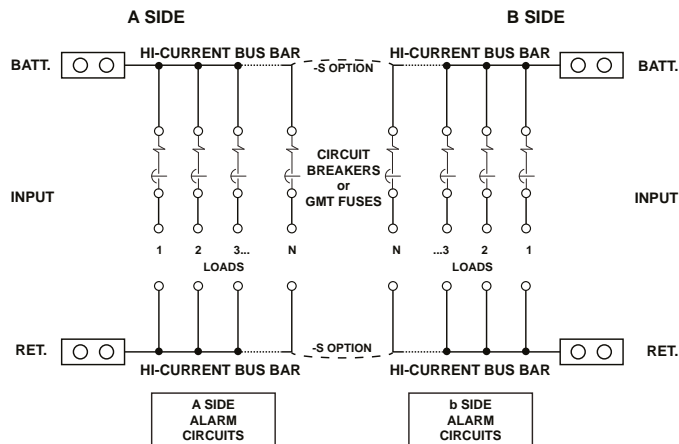

Figure 2. Block Diagram
6.1 Power Distribution Circuits. A simplified schematic diagram of the distribution panels is shown in Figure 2. The battery input to each load connects to a high-current copper bus bar from which the individual fuses or circuit breakers distribute power to the loads. The return input connects to a similar bus bar to which the individual loads terminate. The A and B loads are totally independent and isolated with the exception of models incorporating the ‘S’ option.